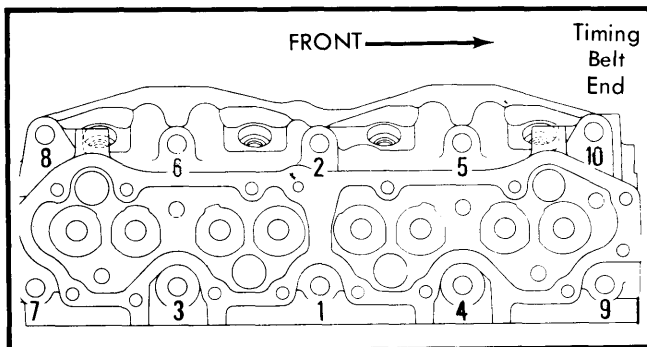

Fig. 1 Cylinder Head Tightening Sequence
2) For vehicles with .75" (19 mm) head bolts, tighten bolts in sequence shown in Fig. 1 in 3 stages. If necessary, modify tool J28032 (Fiat A50131/1) by removing 1/4" (6 mm) of material from bottom of tool. Tighten bolts first to 29 ft. lbs. (93 N.m), then to 69 ft. lbs. (94 N.m) following sequence in Fig. 1. Loosen bolts 1/2 turn and retighten in sequence.
3) For vehicles with .67" (17 mm) head bolts, lubricate all bolts and washers with SAE engine oil and let excess oil drip for 30 minutes. Tighten bolts in 4 stages using special tool (Fiat A50172) in sequence shown. See Fig. 1. First tighten bolts to 15 ft. lbs. (20 N.m), then retighten to 29 ft. lbs. (39 N.m).